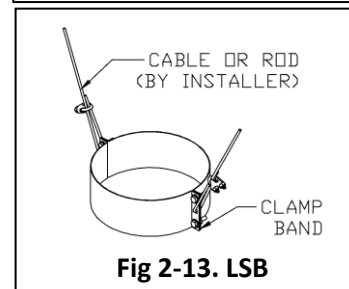

Fig 2-13. LSB
The band firmly clamps around the pipe outer jacket and includes four (4)  $\frac{1}{4}$ " x 20 stainless steel nuts and bolts. Remaining hole in the middle where wires or threaded rods (by the installing contractor) are used for support or guiding back to the building structure. See Fig 2-13.